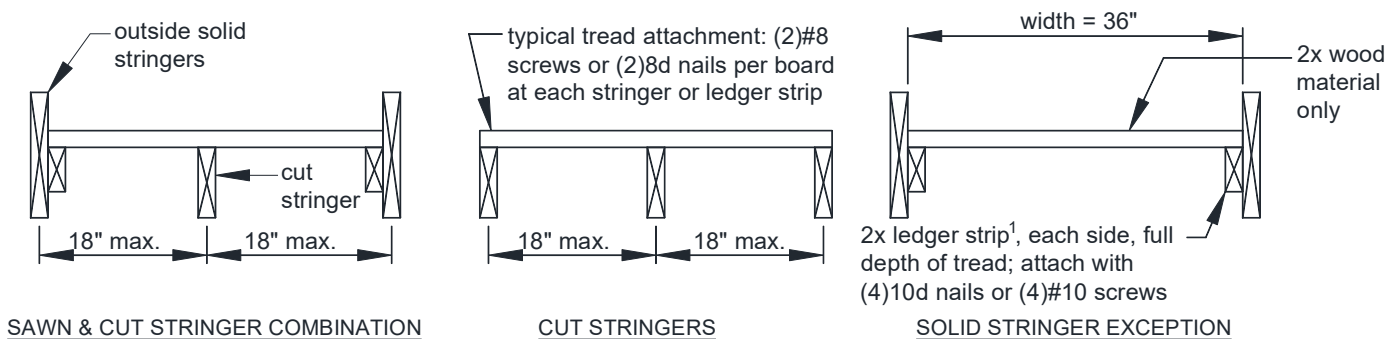

FIGURE 42: STRINGER TREADS
- Tread material shall be equivalent to the decking specified on Page 5 and attached in accordance with FIGURE 42. The span of plastic composites shall be per manufacturer and in some cases may be less than 18 inches specified in FIGURE 42.
- Stairs constructed using the solid stringer exception shall have treads constructed of 2x wood material only; see FIGURE 42.